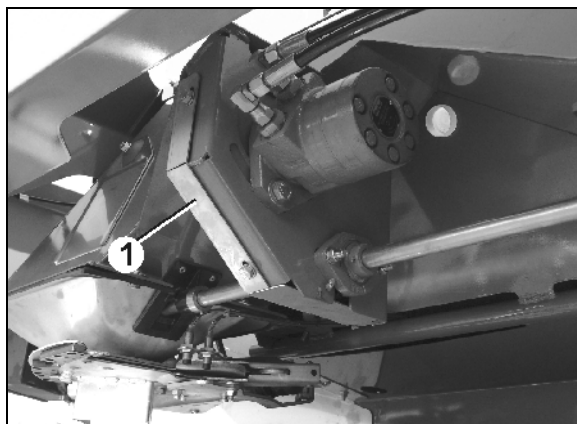

Fig. 82
1. Remove the protective cover (Fig. 82/1) on the drive chain.